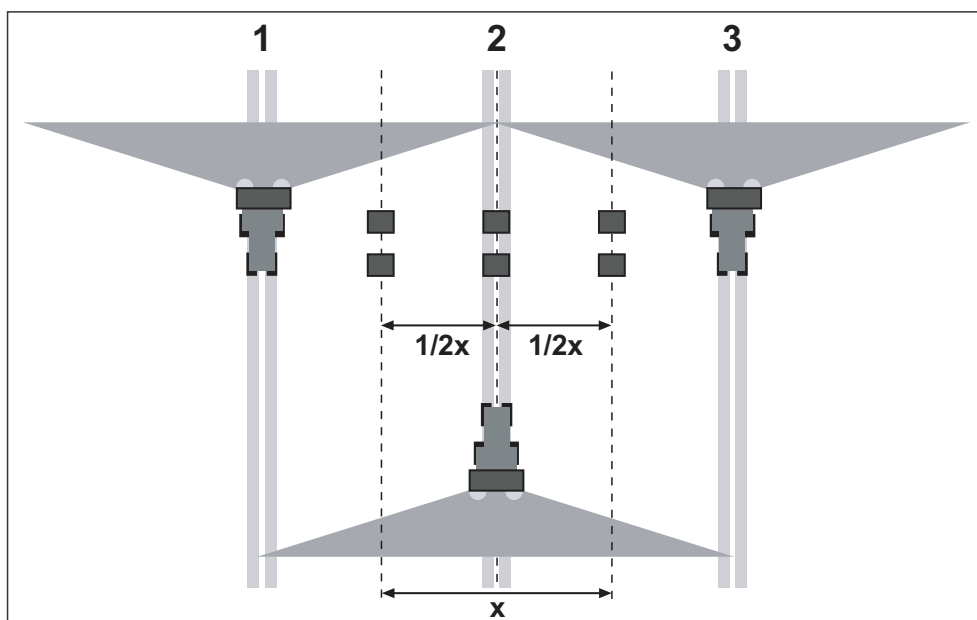

Figure 7.24: Layout for three passages
- Place two collecting vessels each, one after another, at a distance of **1 m** in the overlap zones and in the centre track (according to figure 7.24).